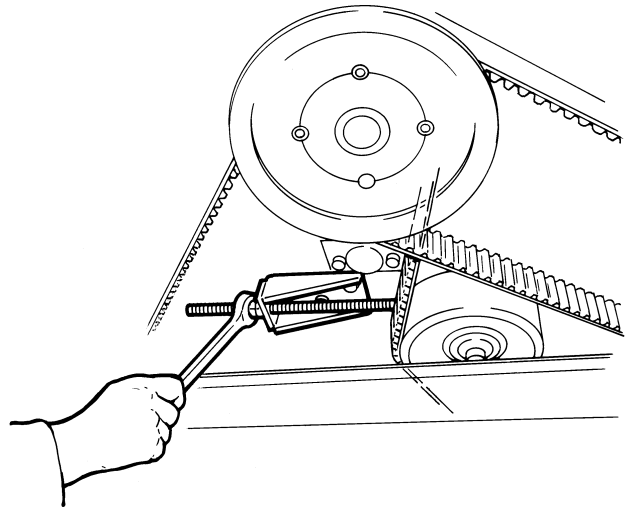

Fig 26
- Release all tension from star module drive belts by loosening nuts on tensioner roller adjuster screws (each side of machine), *Fig 26*.